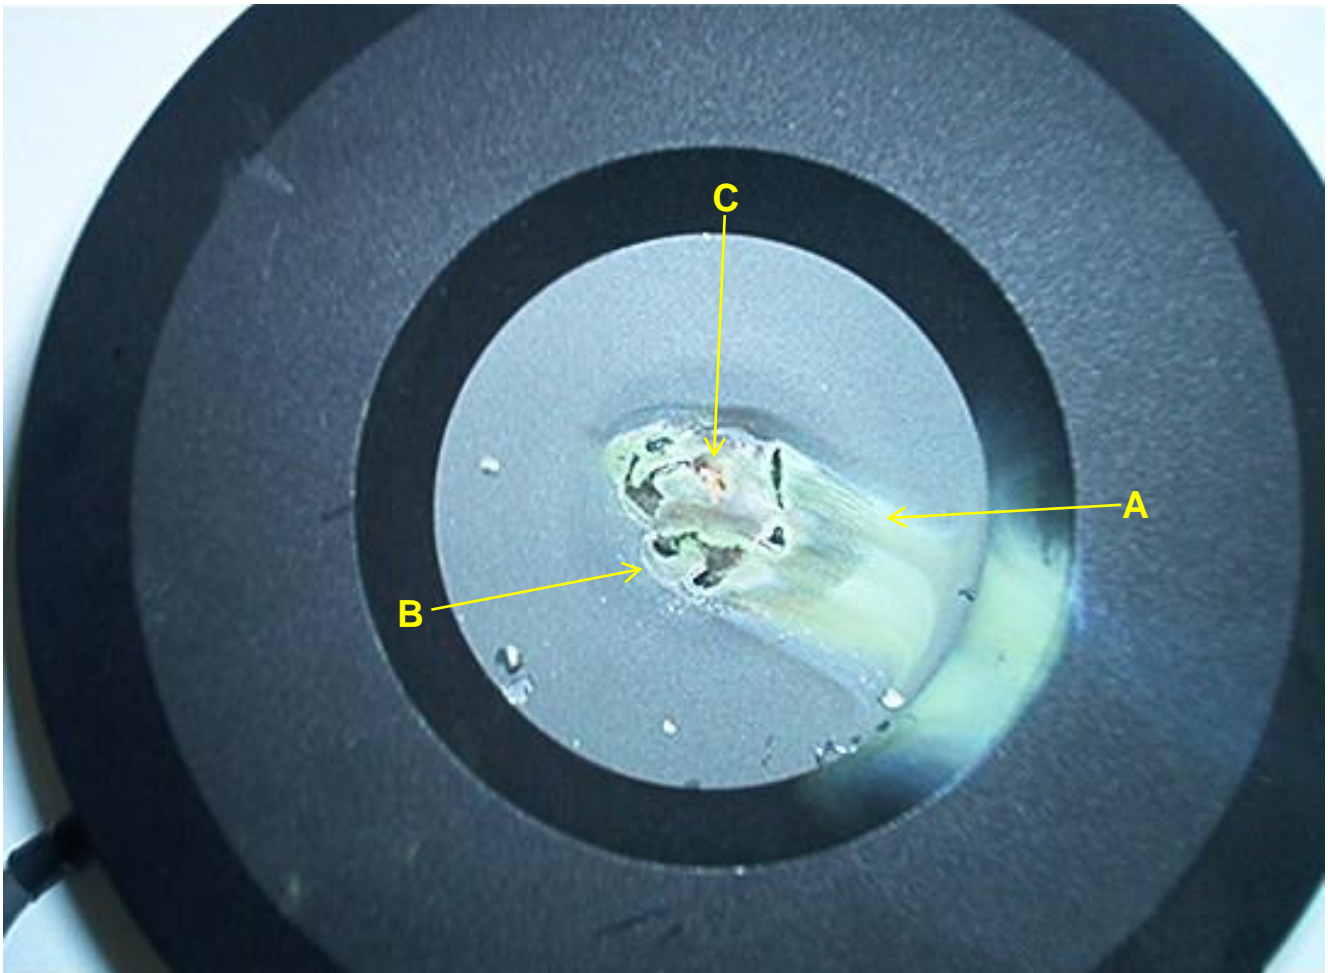

Figure 10: Significant Damage to kW Level Power Sensor Due to Too High of a Power Density or Insufficient Water-Cooling
- j. Figure 10: Significant Damage to kW Level Power Sensors Due to Too High of a Power Density or Insufficient Water-Cooling